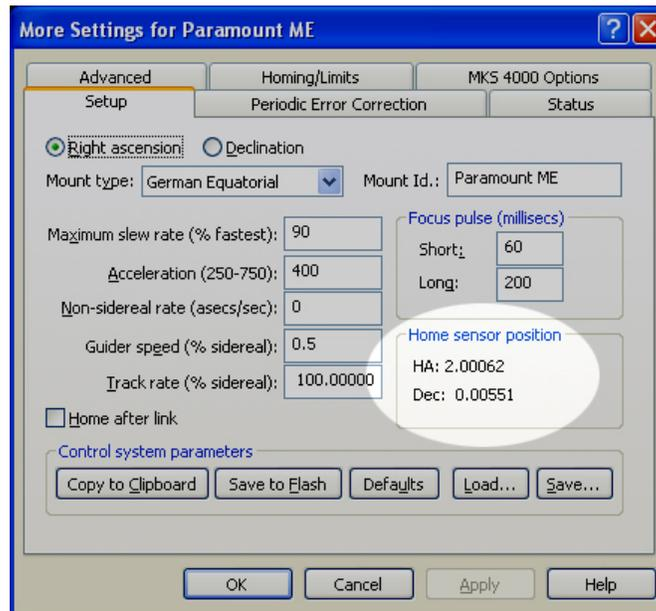

Figure 52: The homing sensor positions computed by TheSky6.
8. Click **Sync** on the Telescope tab of the large Object Information dialog box (see Figure 52). When the Sync Confirmation dialog box appears, click **OK**.
Professional Edition, click Telescope | Options | More Settings. The Setup tab shows the Home Sensor Position (see Figure 52).